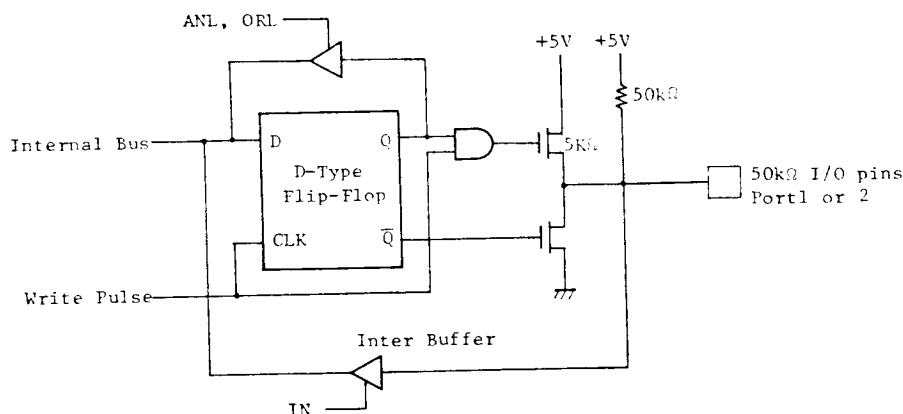

Fig.1 Input/Output Circuit of Port 1, Port 2
(3) Input/Output Ports
- All lines of Ports 1 and 2 are called quasi-bidirectional because of a special output circuit structure (illustrated in Figure 1). Each line is continuously pulled to a +5V level through a high impedance resistive device (50k Ω) which is sufficient to provide the source current for a TTL high level yet can be pulled low by a standard TTL gate thus allowing the same pin to be used for both input and output. In order to speed up the "0" to "1" transition a low impedance device (5k Ω) is switched in momentarily whenever a "1" is written to line. When a "0" is written to line a low impedance device overcomes the pullup and provides TTL current sinking capability.